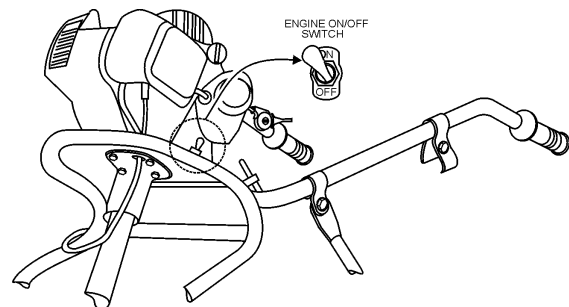

Figure 13. Engine START/STOP Switch
3. Set the engine **START/STOP** switch (Figure 13) to the **START** position.
3. Set the engine **ON/OFF** switch (Figure 13) to the **OFF** position.